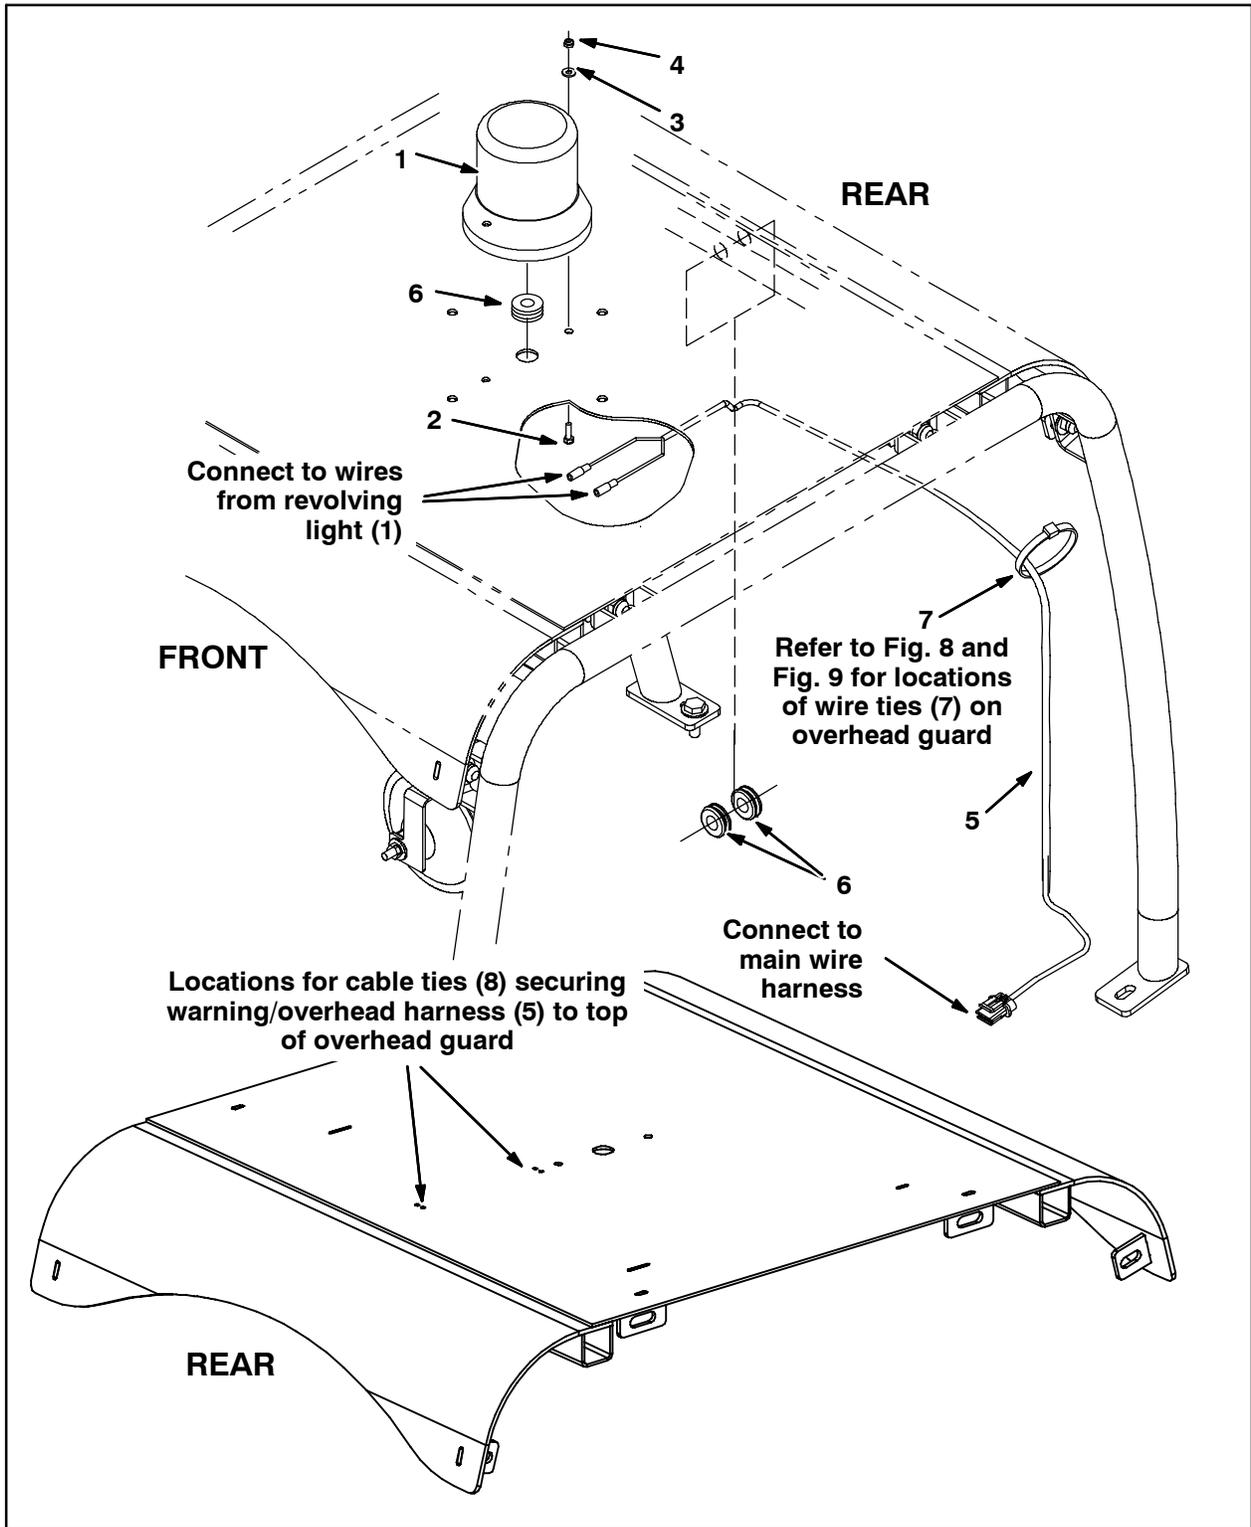
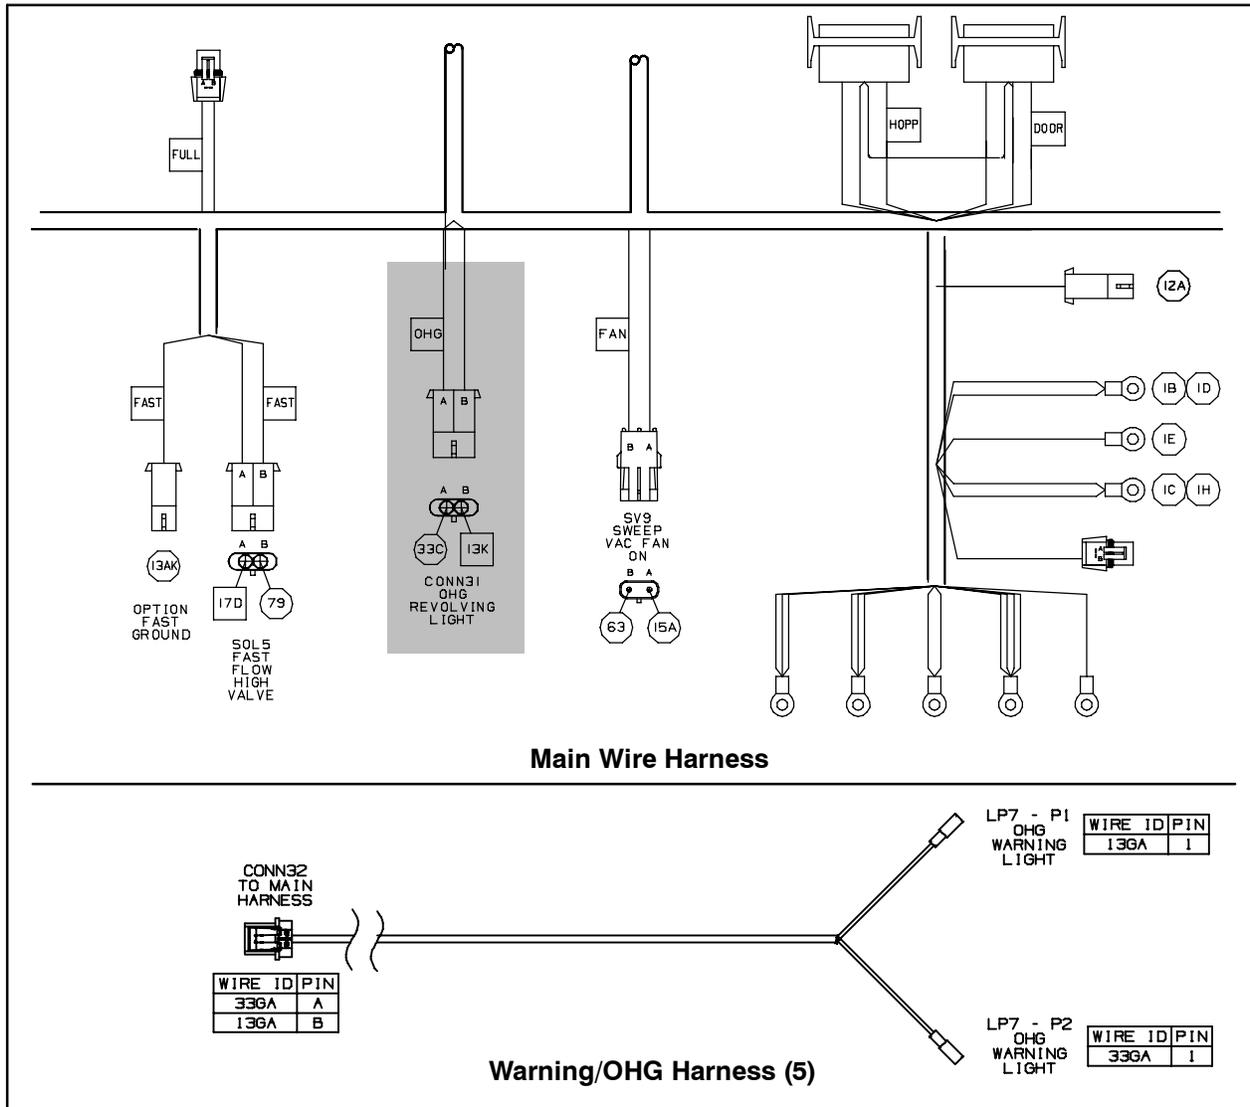

FIG. 10
FIG. 11
4. Connect the warning/overhead harness (5) to the main wire harness, route the warning/overhead harness through the grommet installed in the operator compartment panel, up along leg of the overhead guard, and to the rear cross member of the overhead guard. (Fig. 10 and Fig. 11)
7. Route the warning/OHG harness (5) through the notch in the overhead guard insulation and connect the warning/OHG harness to the light (1). (Fig. 7 and Fig. 11)
9. Use two cable ties (8) to secure the warning/overhead harness (5) to the top of the overhead guard. (Fig. 10)